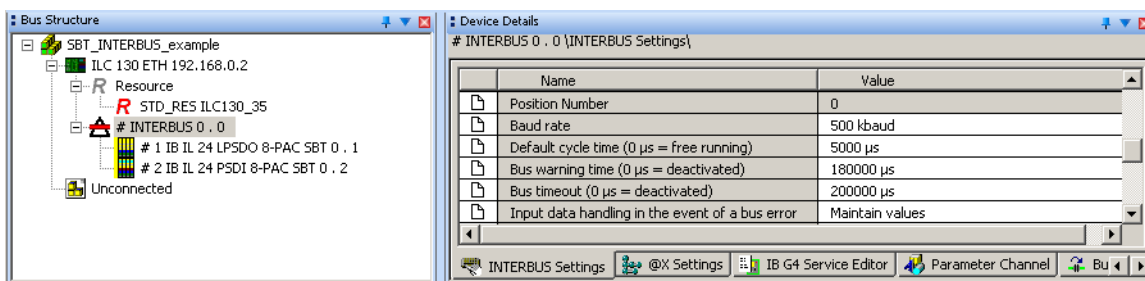

Figure A-11 Default cycle time for an INTERBUS system
- The INTERBUS cycle time (default cycle time) in an INTERBUS system (see Figure A-11).